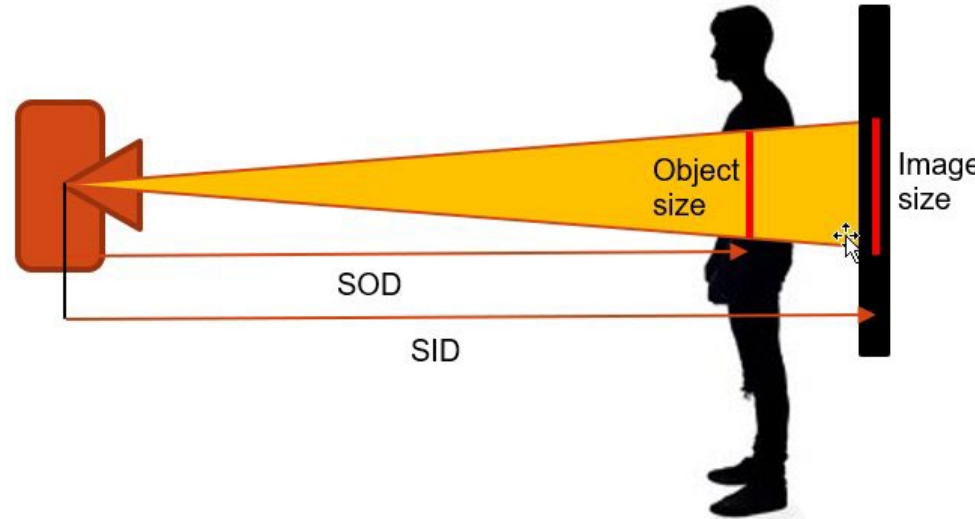

Fig. 19 – Magnification factor in conventional radiography.
- The magnification M is defined as (Fig. 19):